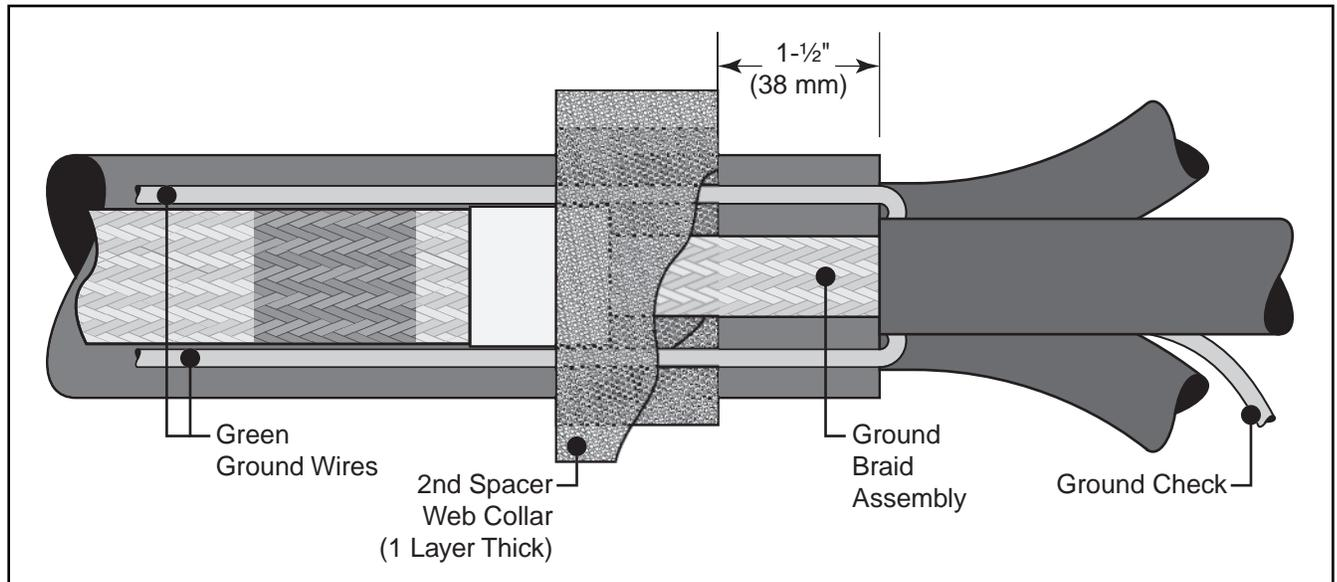

Figure 17
8.3 Position 3-Conductor Ground Braid Assembly and the 2 green ground wires* along the cable jacket and over the Spacer Web collar. (Figure 17.)
8.4 Wrap a 2nd spacer web collar over the 1st collar, 2 ground wires and ground braid. (Figure 17.)